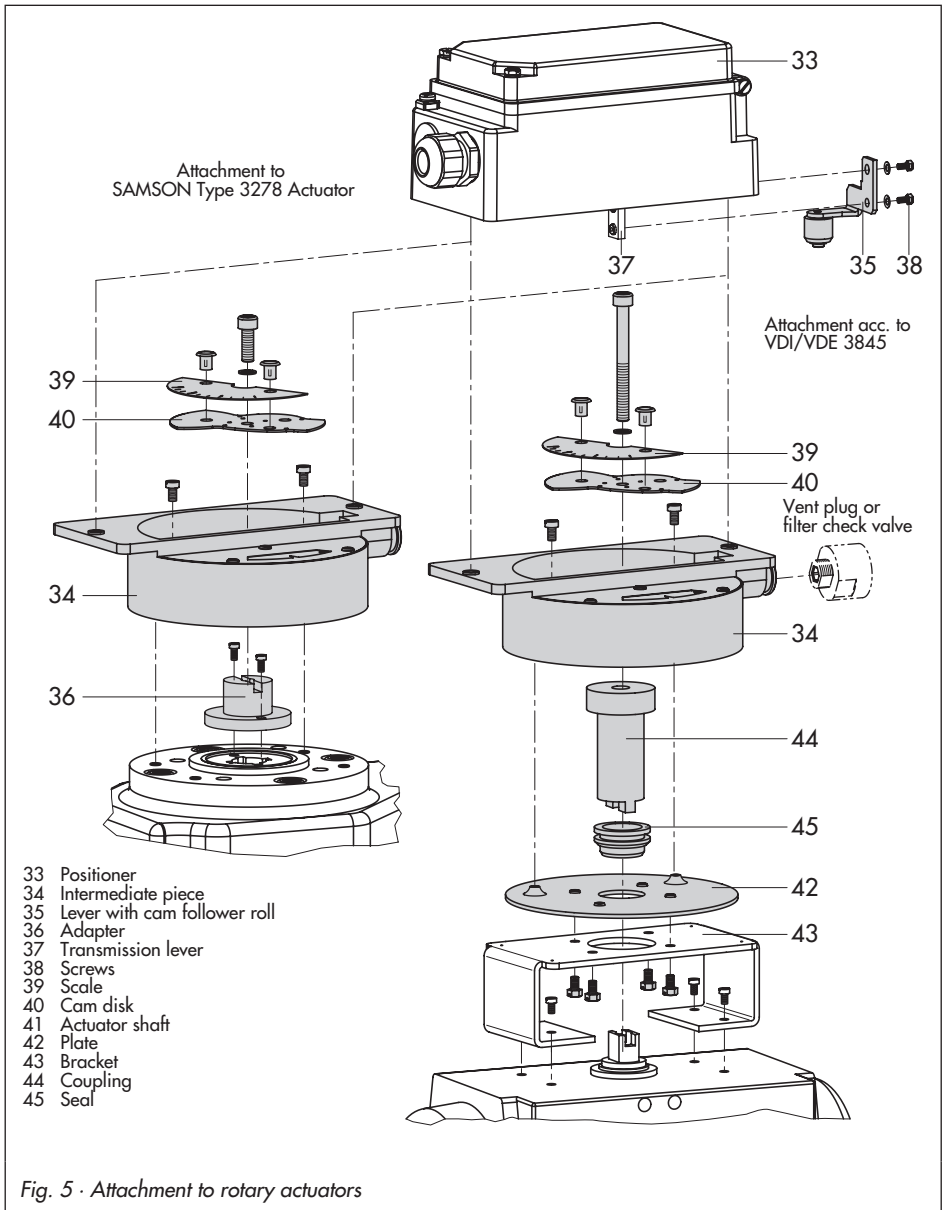

Fig. 5 · Attachment to rotary actuators
1. Adjust shaft (25) in the adapter housing so that the black pointer (24) is aligned with the cast marking on the adapter housing.
2. Screw clamping plate (22) tight in this position using a screw (23).
3. Screw in pin (27) at the positioner lever (26) on the side of the insert nuts and secure it with a hex nut on the opposite side. Observe mounting position **A** or **B** according to Table 5 and Fig. 5.
4. Place positioner on the adapter housing such that the transmission pin (27a) lies properly within the arms of the bracket (28). To do so, insert a 2.5 mm Allen wrench or screwdriver from the front into the bore located below the oblong hole on the cover plate and push the positioner lever to the required position.